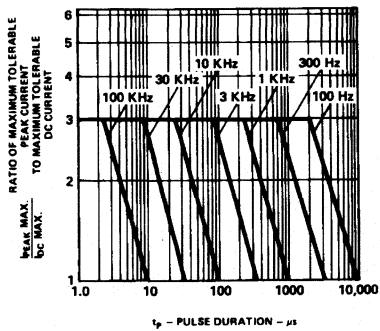

Figure 5. Maximum Tolerable Peak Current vs. Pulse Duration ( $I_{DC}$  MAX as per MAX Ratings).
- See Figure 5 (Red), 10 (Yellow), or 15 (Green) to establish pulsed operating conditions.